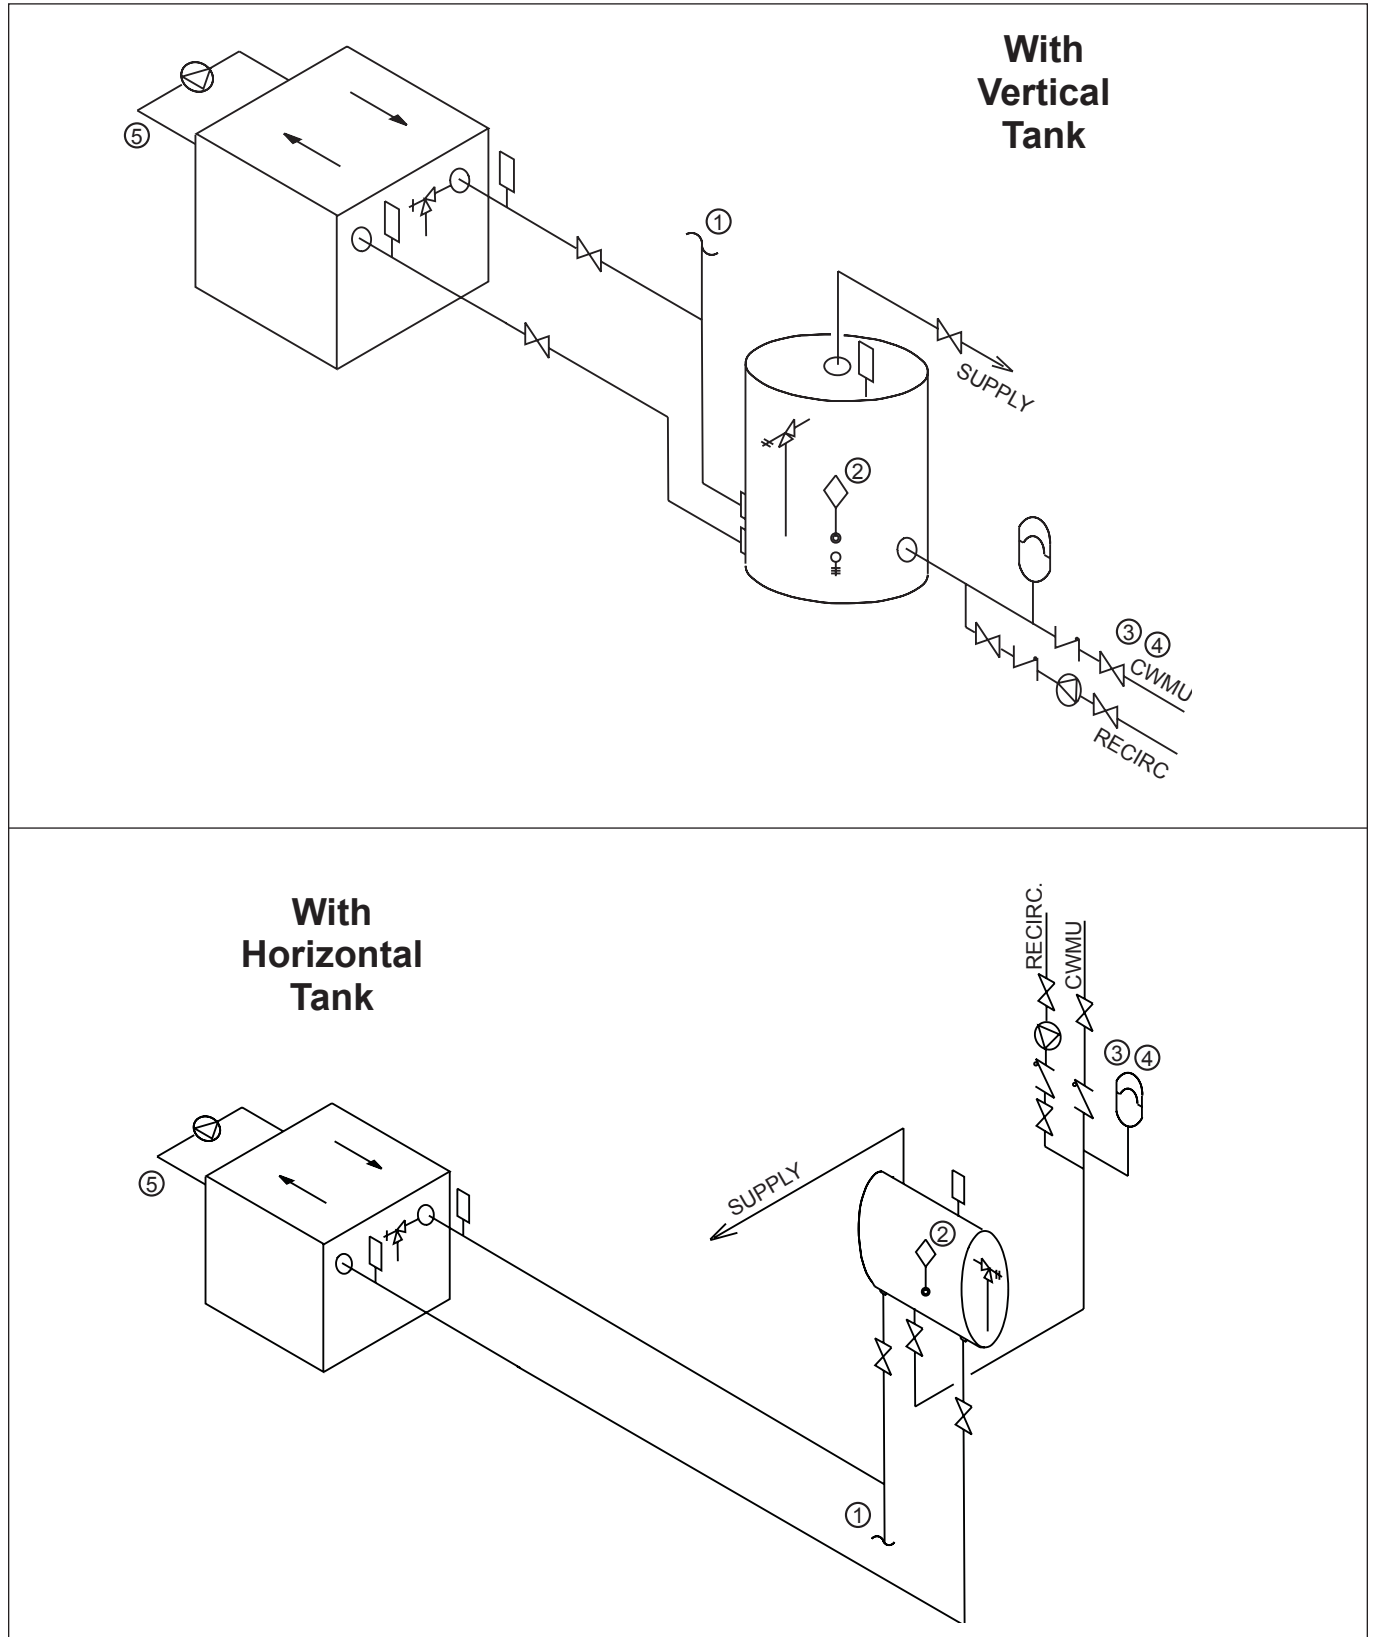

Figure 11. Hot Water Supply System
1. The factory provided pumps on all Copper Brute heaters are sized to provide proper circulation through the heater and heater-to-tank circulation loop (see Figures 11 and 12). If the heater-to-tank circulating loop **does not contain more than 6 elbows or 30 feet of pipe**, use pipe fittings in the loop no smaller than the following: